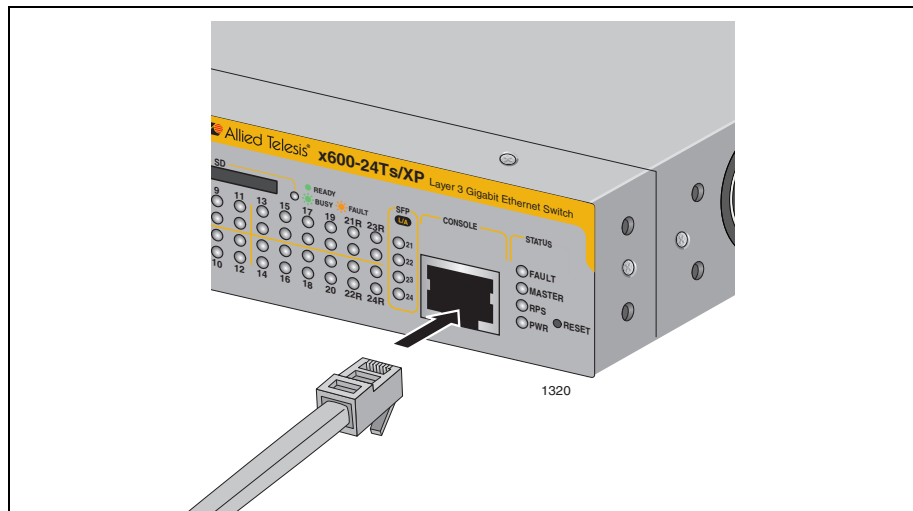

Figure 40. Connecting the Management Cable to the RJ-45 Terminal Port on the Switch
1. Connect the RJ-45 end of the management cable included with the x600 switch to the Terminal Port on the front panel of the switch, as shown in Figure 40.